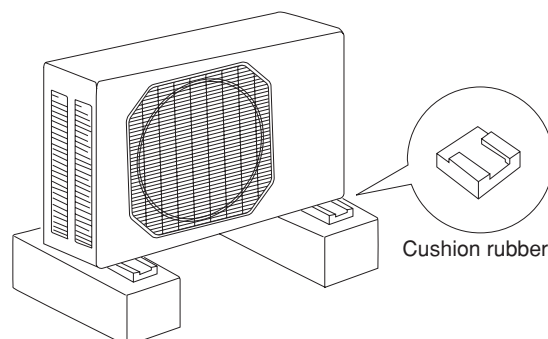

Fig. 5d
- Install cushion rubber under unit's feet to reduce vibration and noise. (Fig. 5d)